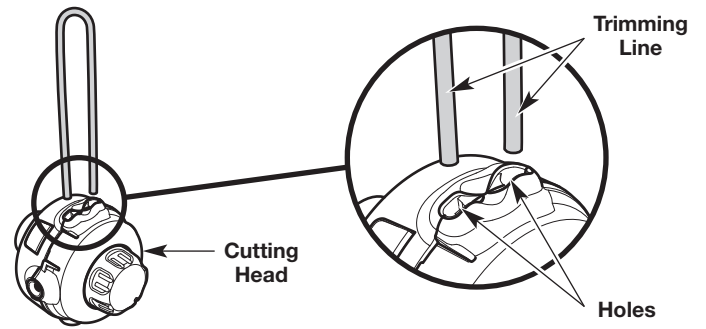
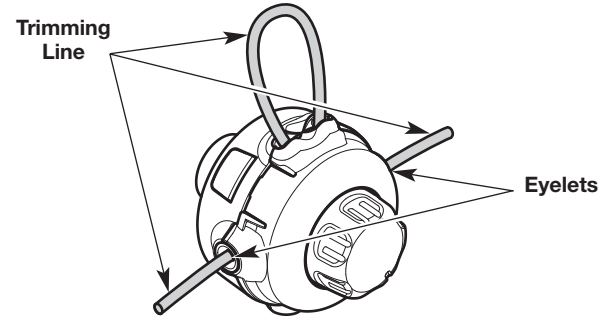

Fig. 23
Fig. 24
3. Insert the ends of the new trimming line into the holes in the cutting head (Fig. 23). Push the line through the holes until both ends protrude from the eyelets (Fig. 24).